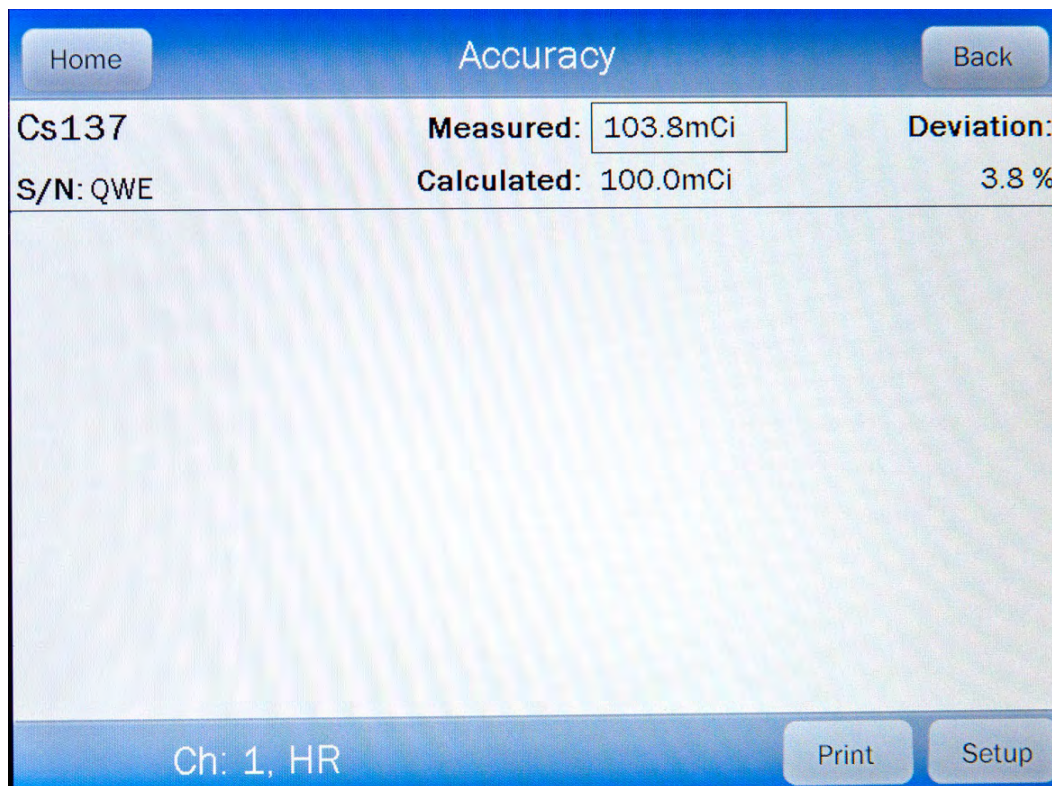

Figure 8-15 Accuracy Test Results Screen
Touch the **ACCEPT** button to accept the measurement. The screen will be similar to that shown in Figure 8-15 Accuracy Test Results Screen.
The Constancy Test is automated. From Figure 8-15 Accuracy Test Results Screen, touch the **AUTOCONSTANCY** button.
- Touch the **BACK** button to exit the Auto Constancy Test and return to Figure 8-15 Accuracy Test Results Screen.